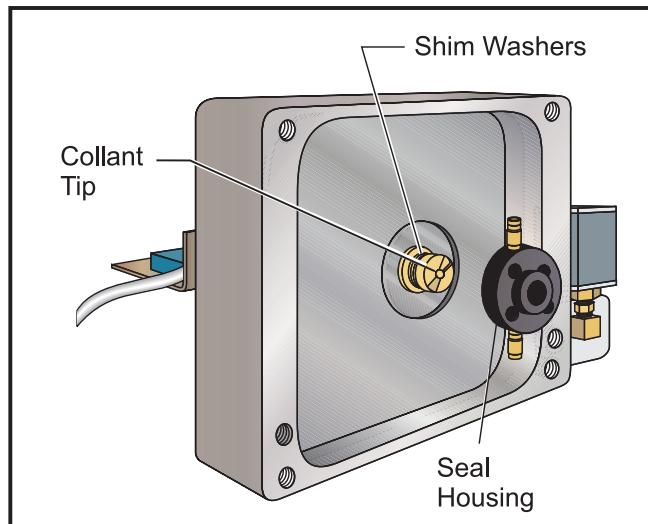

Figure 3.6-2. Coolant tip and seal housing (TSC machines only).
6. Press the MDI key and turn the jog handle to zero (0). Press HANDLE JOG. Jog the Z-axis in the positive (+) direction .100".
- If the block is tight at 0.070 or less, the Coolant Tip (figure 3.6-2) must be replaced. Call your dealer for replacement of the Coolant Tip and the seal housing.